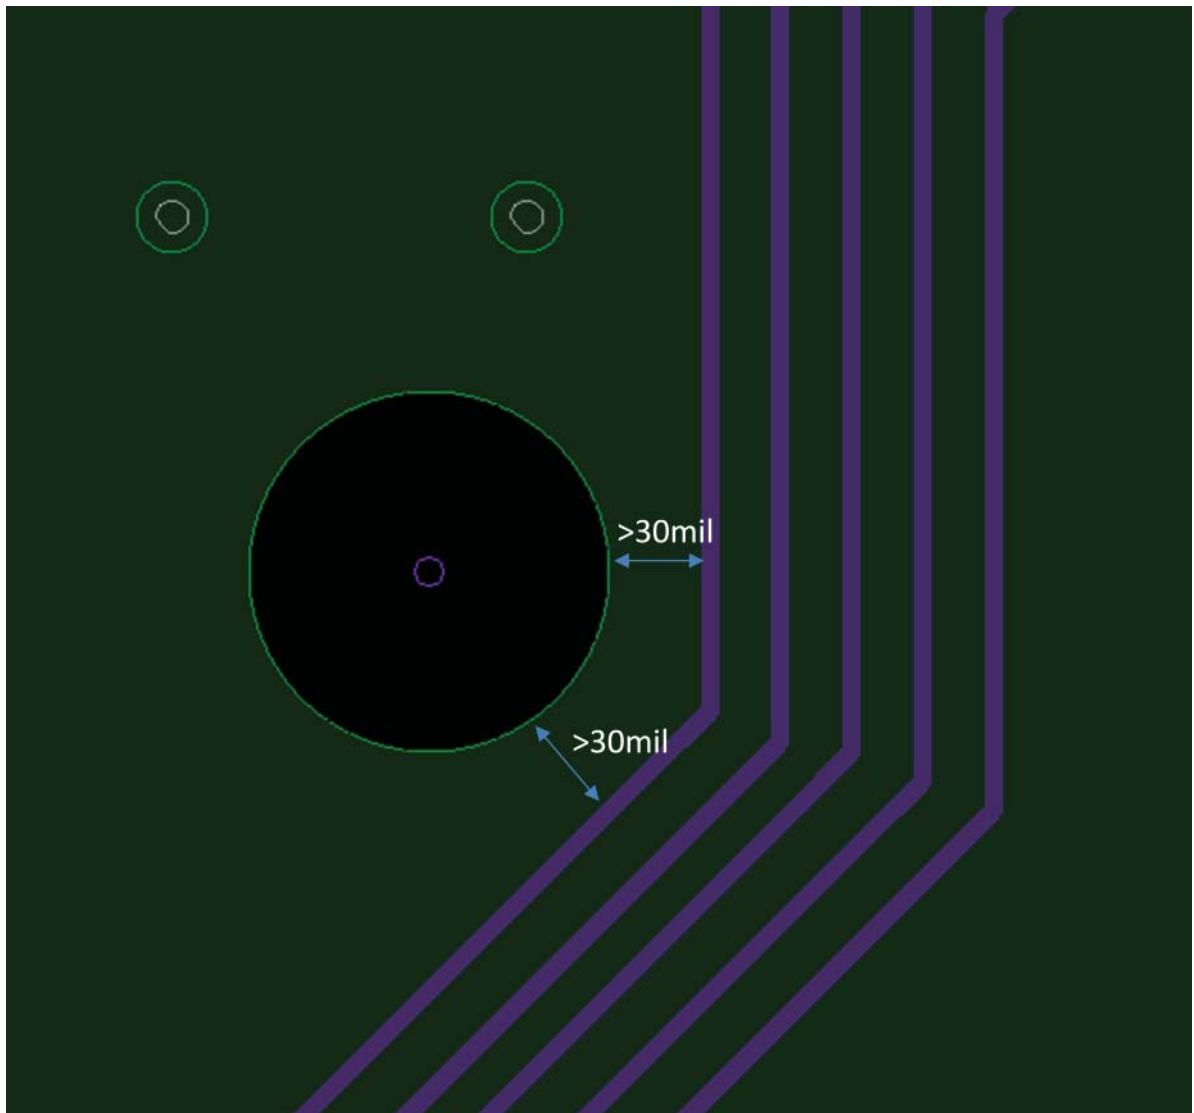

Figure A-2: **Signal Routing Over Solid Reference Plane**
- Signal lines must be routed over a solid reference plane. Avoid routing over voids (Figure A-2).
8. Keep the routing at least 30 mils away from the reference plane and void edges with the exception of breakout regions (Figure A-2).